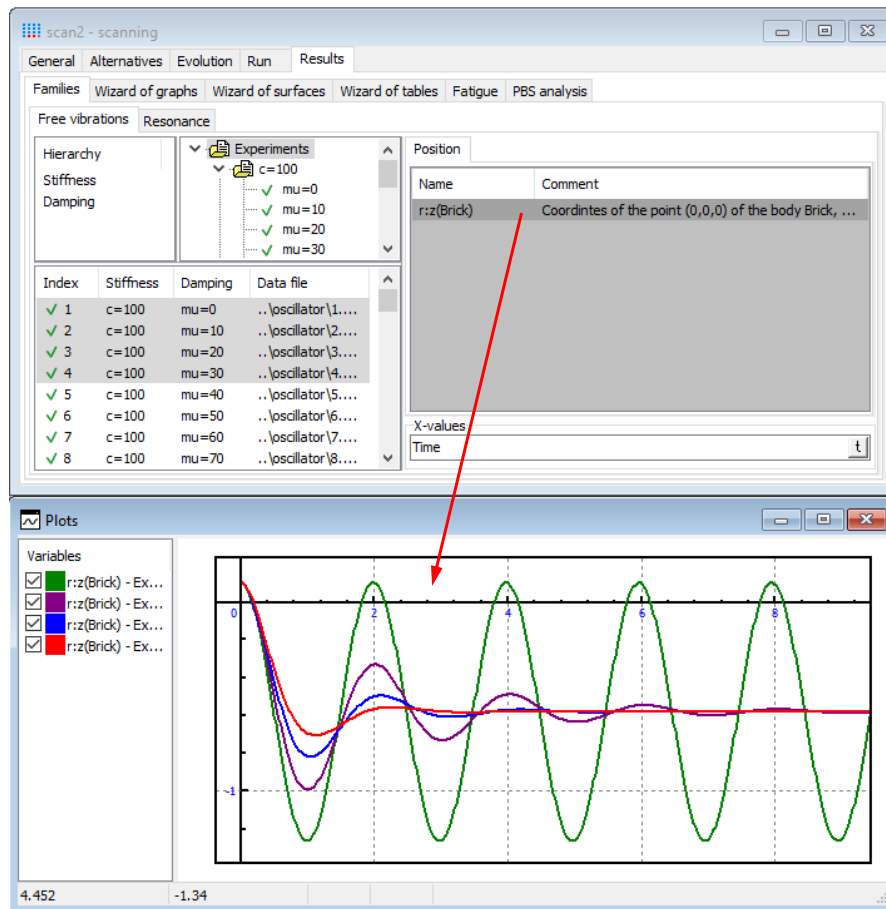

Figure 1.4. Scanning: processing results
After fulfillment of all numerical experiments their results are available for analyzing, see Figure 1.4. It is possible to get plots for any variable from the list of variables as well as summary graphs, surfaces and tables.
- When the project is finished simulation results are available for analysis, see Figure 1.4.